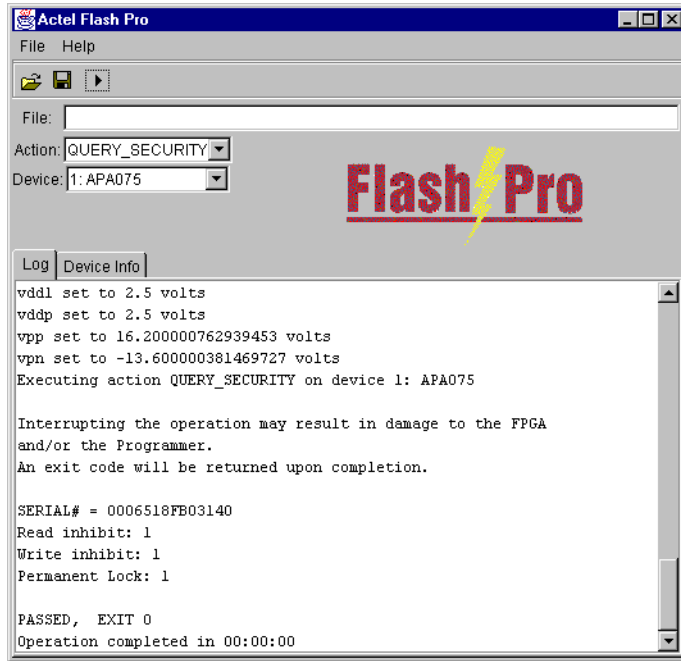

Figure 2-17. Query Results for the Permanently Locked Device
- 4. Make your selections and click *Execute* to start programming.** The progress of the programming action is displayed in the Log window. The message 'Exit 0' indicates that the device has successfully been programmed as shown in Figure 2-17.